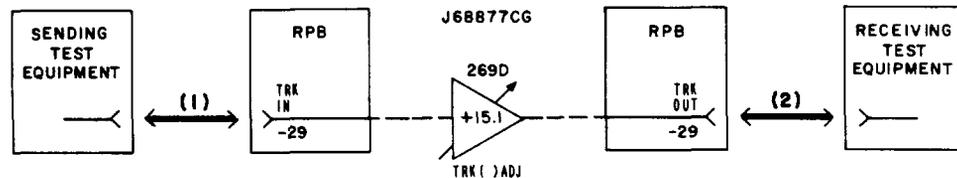

Fig. 7—Zero-Loss Trunk
3	Make patches designed (1) and (2) in Fig. 7. Note: The TRK IN and TRK OUT jacks of a zero-loss trunk circuit may be in different restoration patch bays.